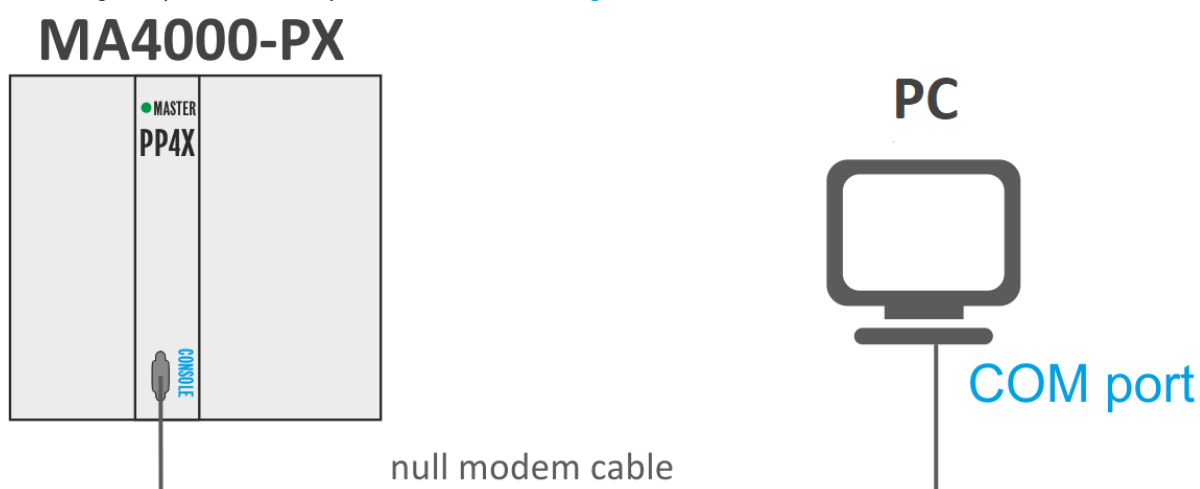

Figure 16 – Connecting access node to PC via COM port
Step 1. Using the null modem cable, connect the **CONSOLE** port of the PP4X master module ('Master' LED indicator should be solid green) to the COM port of the PC, see Figure 16.